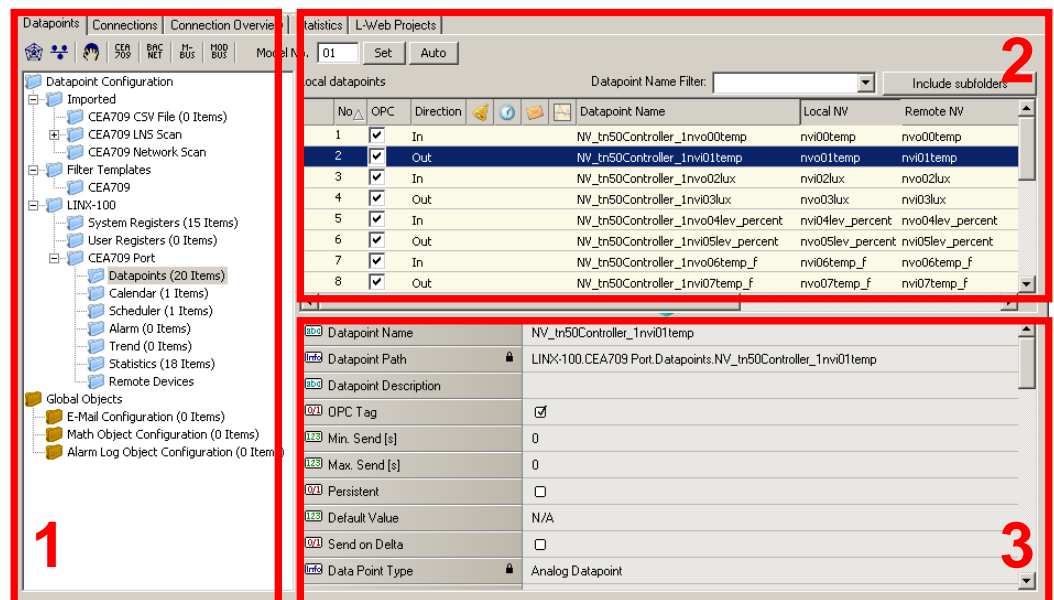

Figure 82: Data Point Manager Dialog.
The Configurator uses a central concept to manage data points. The data point manager is located on the **Datapoints** tab as shown in Figure 82. It is used to select, create, edit and delete data points. The dialog is divided into three sections:
- The folder list (number 1 in Figure 82),
- The data point list (number 2 in Figure 82),
- And a property view (number 3 in Figure 82).